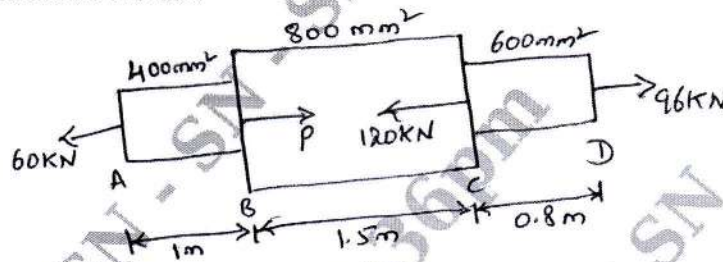

Fig. Q1 (c)
- c. A steel bar ABCD of varying sections is subjected to axial forces as shown in Fig. Q1 (c). Find the value of 'P' necessary for equilibrium. If $E = 210 \text{ kN/mm}^2$, determine